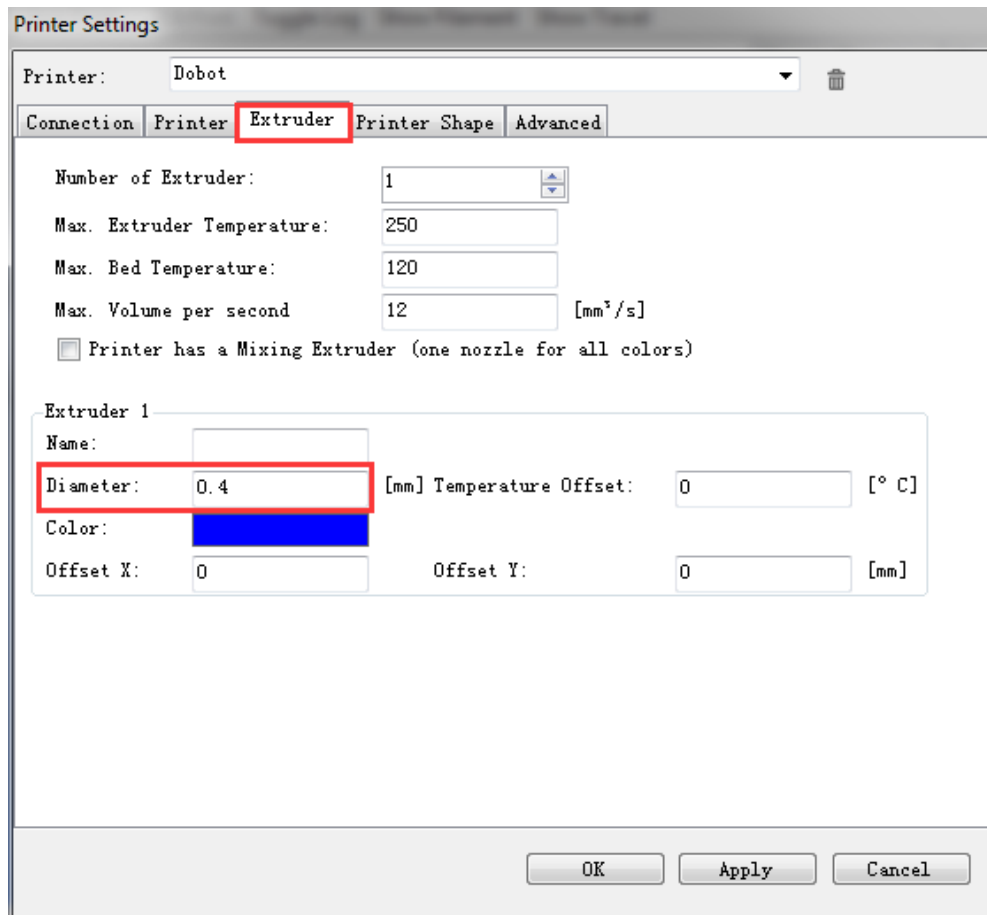

Figure 5.129 Extruder settings
5. Set the corresponding parameters on the **Extruder** tab as shown in the red box of Figure 5.129, the other parameters are set by default. Then, Click **Apply**.